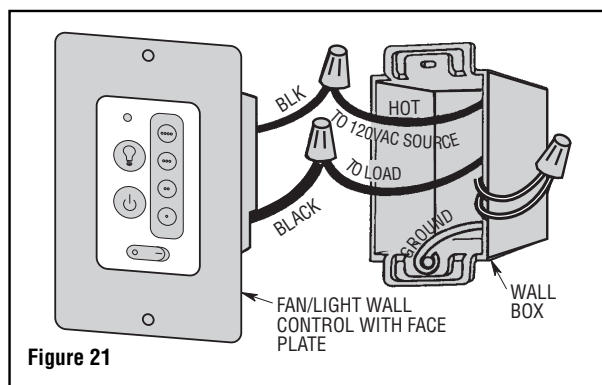

Figure 21
12. Connect one black wire of wall control to the “hot” wire. Securely connect wires with wire connectors supplied (Figure 21).